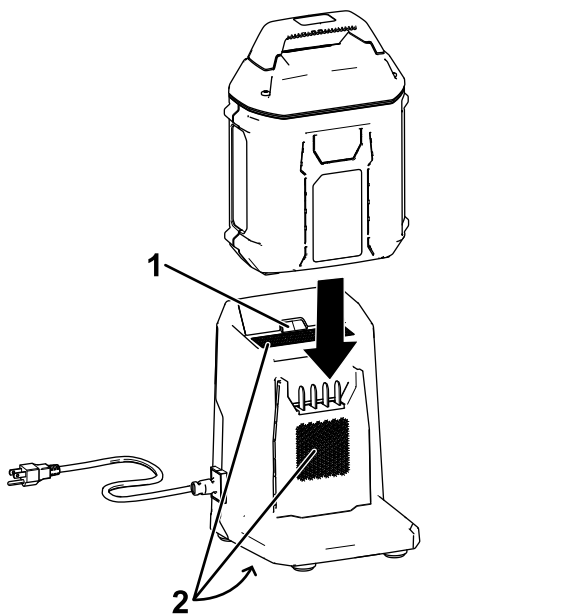

Figure 8
4. Slide the battery pack into the charger until it is fully seated (Figure 8).